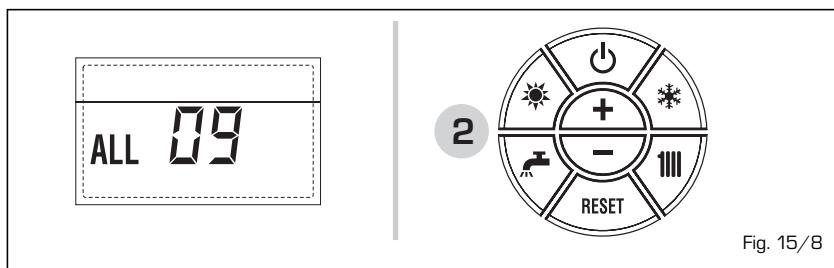

Fig. 15/8
- **AUXILIARY SENSOR ANOMALY ALARM 10 (fig. 15/9)**
**BOILER WITH ACCUMULATION:** anomaly of the D.H.W. sensor (ST). When the D.H.W. sensor is open or short circuited, the display will show anomaly ALL 10. The boiler will function but will not modulate power for the D.H.W.